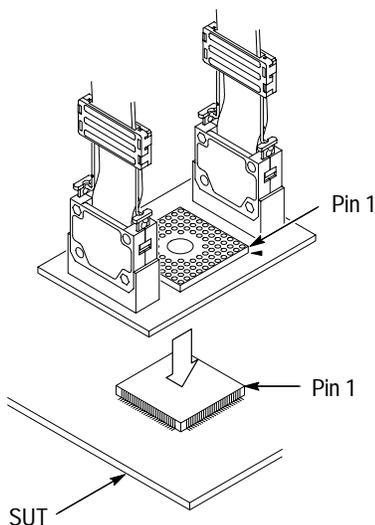

Figure 1-3: Placing the probe adapter onto the SUT
10. Place the probe adapter onto the SUT as shown in Figure 1-3.